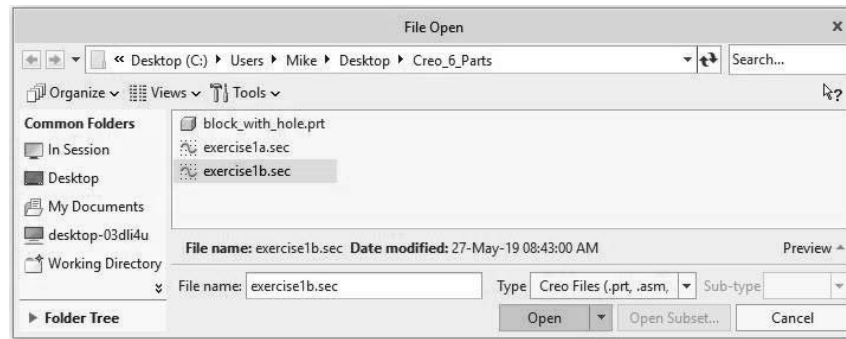

Figure 3-61 Open “exercise1b.sec”
Step 26: Locate “exercise1b.sec” in your working directory. *Pick* the **Open** button as shown in Figure 3-61.